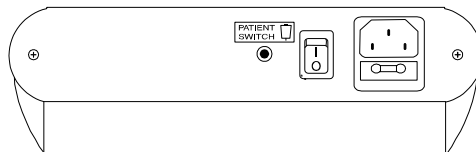

Figure 3.1— Sys*Stim 208A, Back View—Mains Power Switch, Line Cord Connection and Patient Safety Switch Connection
1. Connect the line cord to the back of the Sys*Stim 208A. (See Figure 3.1)
5. Plug the patient safety switch (ME2031) into the back of the unit as seen in Figure 3.1.